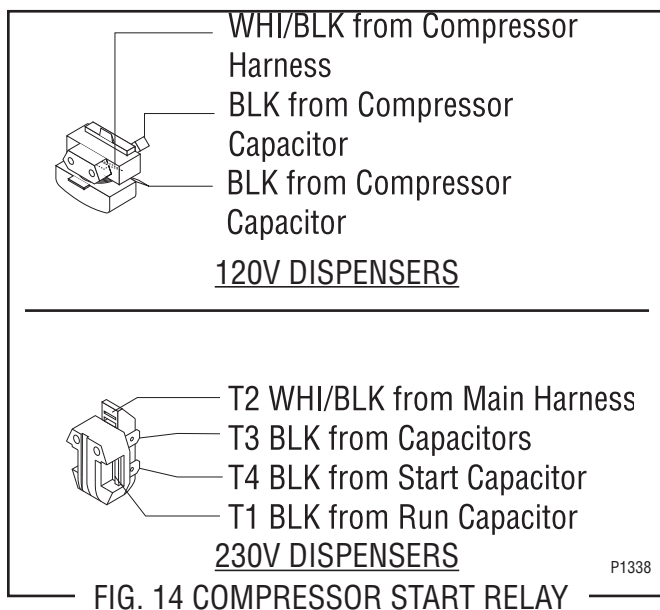

FIG. 14 COMPRESSOR START RELAY
3. Pull relay (1) off of the compressor pins and discard.
5. Refer to Fig. 14 and reconnect the wires.
6. Reinstall terminal cover (5) and cover retainer (6).